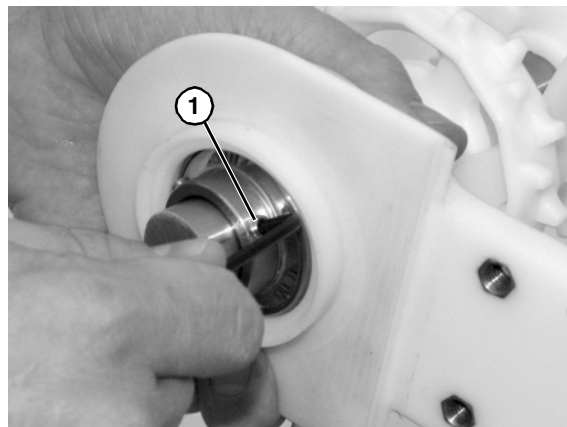

Figure 57
6. Loosen set screws (**Figure 57, item 1**).